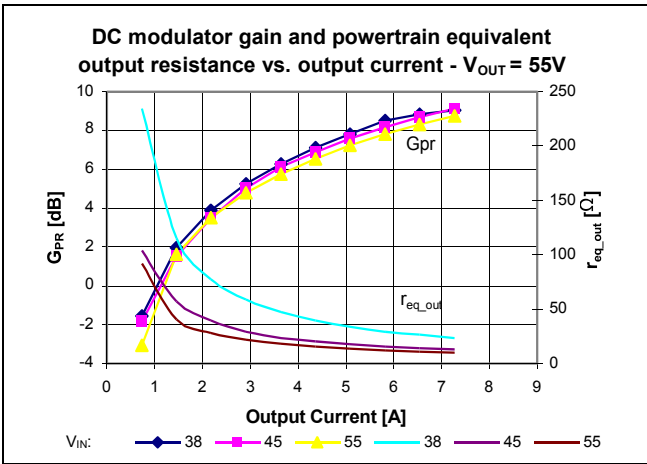

Figure 17 – Powertrain characteristics vs.  $I_{OUT}$ ; Resistive load,  $V_{OUT} = 55\text{ V}$ , various  $V_{IN}$
The powertrain small signal (plant) response consists of a single pole determined by the load resistance, the powertrain equivalent output resistance, and the total output capacitance (internal and external to the module). Both the modulator gain and the equivalent output resistance vary as a function of line, load and output voltage, as shown in Figures 17, 18 and 19. As the load increases, the powertrain pole moves to higher frequency. As a result, the closed loop crossover frequency will be the highest at full load and lowest at
- Modulator Gain  $G_{PR}$ : See Figures 17, 18, 19
- Powertrain equivalent resistance  $r_{EQ}$ : See Figures 17, 18, 19